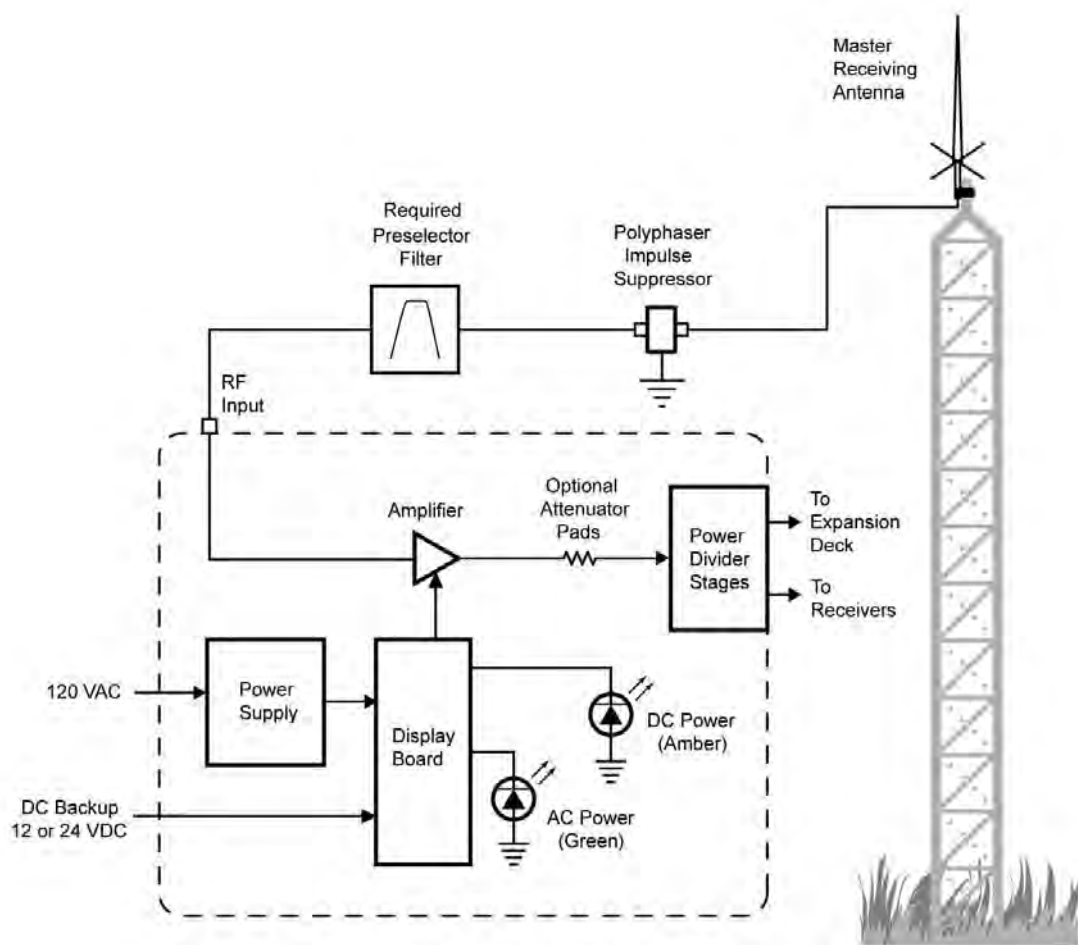

Figure 5: Typical installation of the Compact Receiver Multicoupler system.
- 2) A required preselector filter **MUST** be installed between the RF input of the receiver multicoupler and the in-building Polyphaser Impulse Suppressor as shown in **Figure 5**. Connect the incoming antenna lead to the input port of the required preselector and the output port of the preselector to the RF input port on the rear of
It is required that a preselector filter be used in the receiving system to keep unwanted signals, which are picked up by the receiving antenna, from entering the receiver multicoupler. In most installations, the receiving antenna will be in close proximity to transmitting antenna(s). Therefore, added selectivity between the receiving antenna and the multicoupler RF input is a must, to protect the amplifier in the receiver multicoupler as well as the receivers themselves from overloading due to strong transmitter carriers. In so doing, the filter will aid in the suppression of receiver-generated intermodulation products. Figure 5 shows the proper location of the required preselector in the system.
To maximize the receiving system's reliability, additional lightning protection is desirable. Figure 5 shows a Polyphaser impulse suppressor installed in the receiving antenna line. Proper techniques for achieving the best protection are beyond the scope of this manual, so we recommend contacting the manufacturer of this equipment for additional advice.
Referring to figure 5, signals are picked up by the receive antenna and passed down the tower by the transmission line to a polyphaser impulse suppressor located at the point of cable entry into the building. Signals are then applied to the required preselector and pass through to the RF input connector on the back of the unit. Once on the deck signals pass directly to the amplifier assembly and then are split to the station receivers by the power divider assemblies. The exact type and number of power dividers in the unit will vary based on the exact model number ordered from the factory.